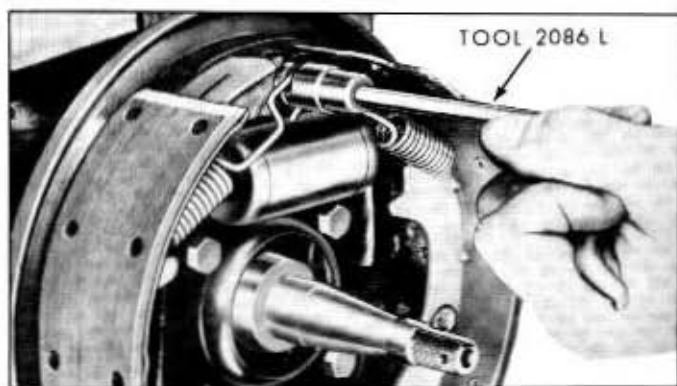

Fig. 2-8—Retracting Spring Removal—(60C-2010)
2. Disconnect the brake shoe retracting springs and hold down springs. See figures 2-8 and 2-9.